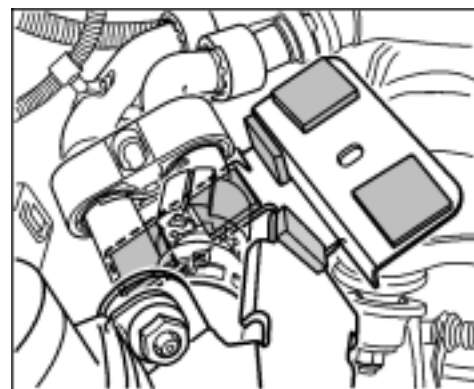

Figure 7
- 7.3 Affix the 6 foam rubber strips on the holder as shown in ⇒ *Figure 7*.